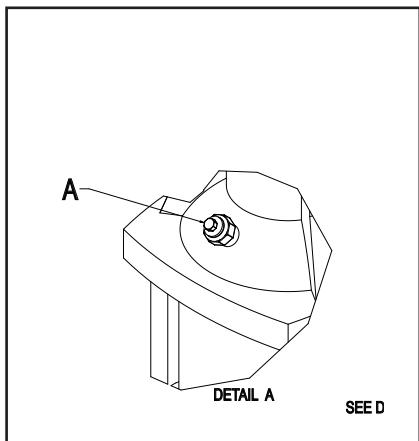

Fig. 9
3. Loosen the relief plug (A, Fig. 9) 1-2 revolutions until water and air begin to flow out.